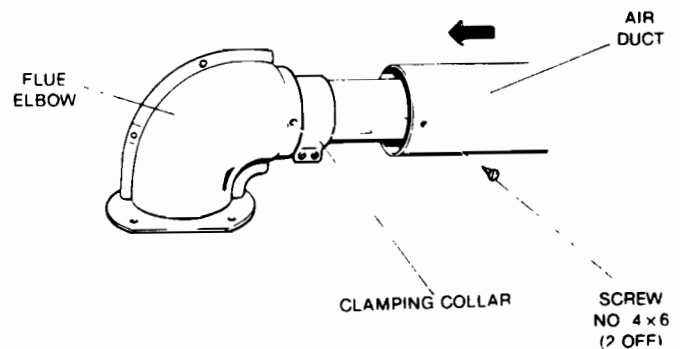

FIG. 19
**NOTE: THE OUTER DUCTING IS PRE-DRILLED AT ONE END, ALWAYS MARK AND CUT AT THE PLAIN END (see Fig. 19)**
- Select the air duct, and slide over the flue duct, (the pre-drilled end to engage on-to the elbow), then push onto the elbow spigot. Drill two 2mm dia holes through the pre-drilled air duct into the elbow and secure with the screws provided (see Fig. 19).